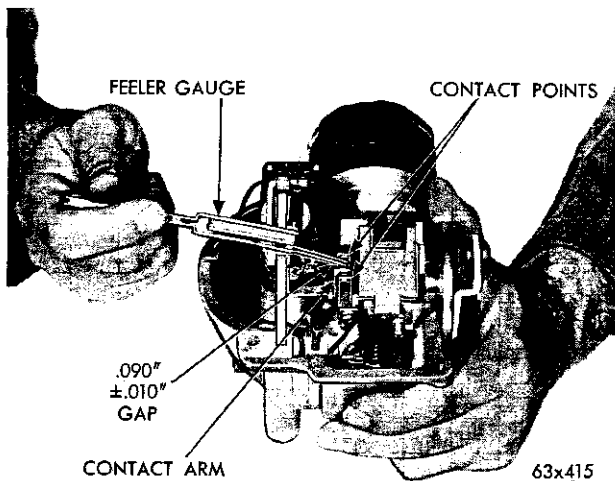

Fig. 30—Contact Point Adjustment (Full Gap)
(1) Disconnect the drive cable at the base of the power unit.
(2) Move the contact arm against either contact point and use a feeler gauge to measure the full gap between contact arm and other point (Fig. 30). This gap must be  $.090 \pm .010$  inch. If the gap is not within specifications, bend either contact point on the magnet assembly until the proper gap is obtained.